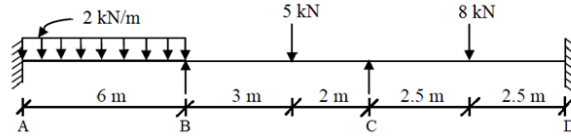

Figure 9
7. (a) Analyse the continuous beam ABCD shown in Fig.9 using slope deflection method and draw shear force, bending moment diagrams. Assume moment of inertia of the spans as $2I_{AB} = I_{BC} = 2I_{CD}$. [7M]